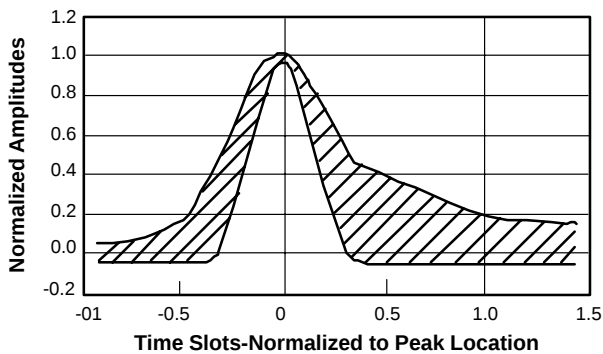
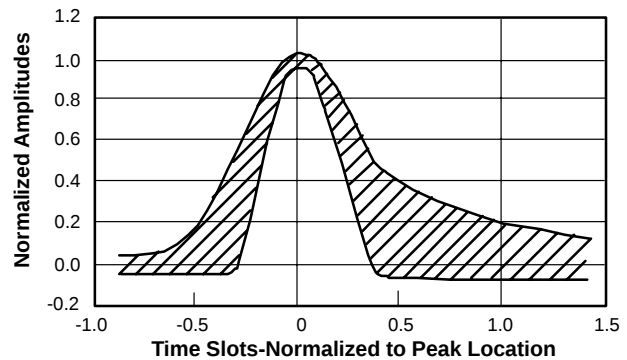

Figure 3. DSX-3 Isolated Pulse Template for ANSI T1.404 Standards
Figure 4. DSX-3 Isolated Pulse Template for Bellcore TR-NWT-000499
Currently, two isolated pulse template requirements exist: the ANSI T1.404 pulse template (*See Table 3 and Figure 3*) and the Bellcore TR-NWT-000499 pulse template. The pulse transmitted by the XR-T7296 meets these templates.
Pulse Shape	An isolated pulse must fit the template in Figure 3 or Figure 4 . ¹ The pulse amplitude may be scaled by a constant factor to fit the template. The pulse amplitude must be between 0.36Vpk and 0.85Vpk, measured at the center of the pulse.
- ¹ The pulse template proposed by G.703 standards is shown in *Figure 4* and specified in *Table 4*. The proposed G.703 standards further state that the voltage in a time slot containing a 0 must not exceed $\pm$ 5% of the peak pulse amplitude, except for the residue of preceding pulses.
Table 3. DSX-3 Pulse Template Boundaries for ANSI T1.404 Standards (See *Figure 3*.)
Table 4. DSX-3 Pulse Template Boundaries for Bellcore TR-NWT-000499 Standards (See *Figure 4*)